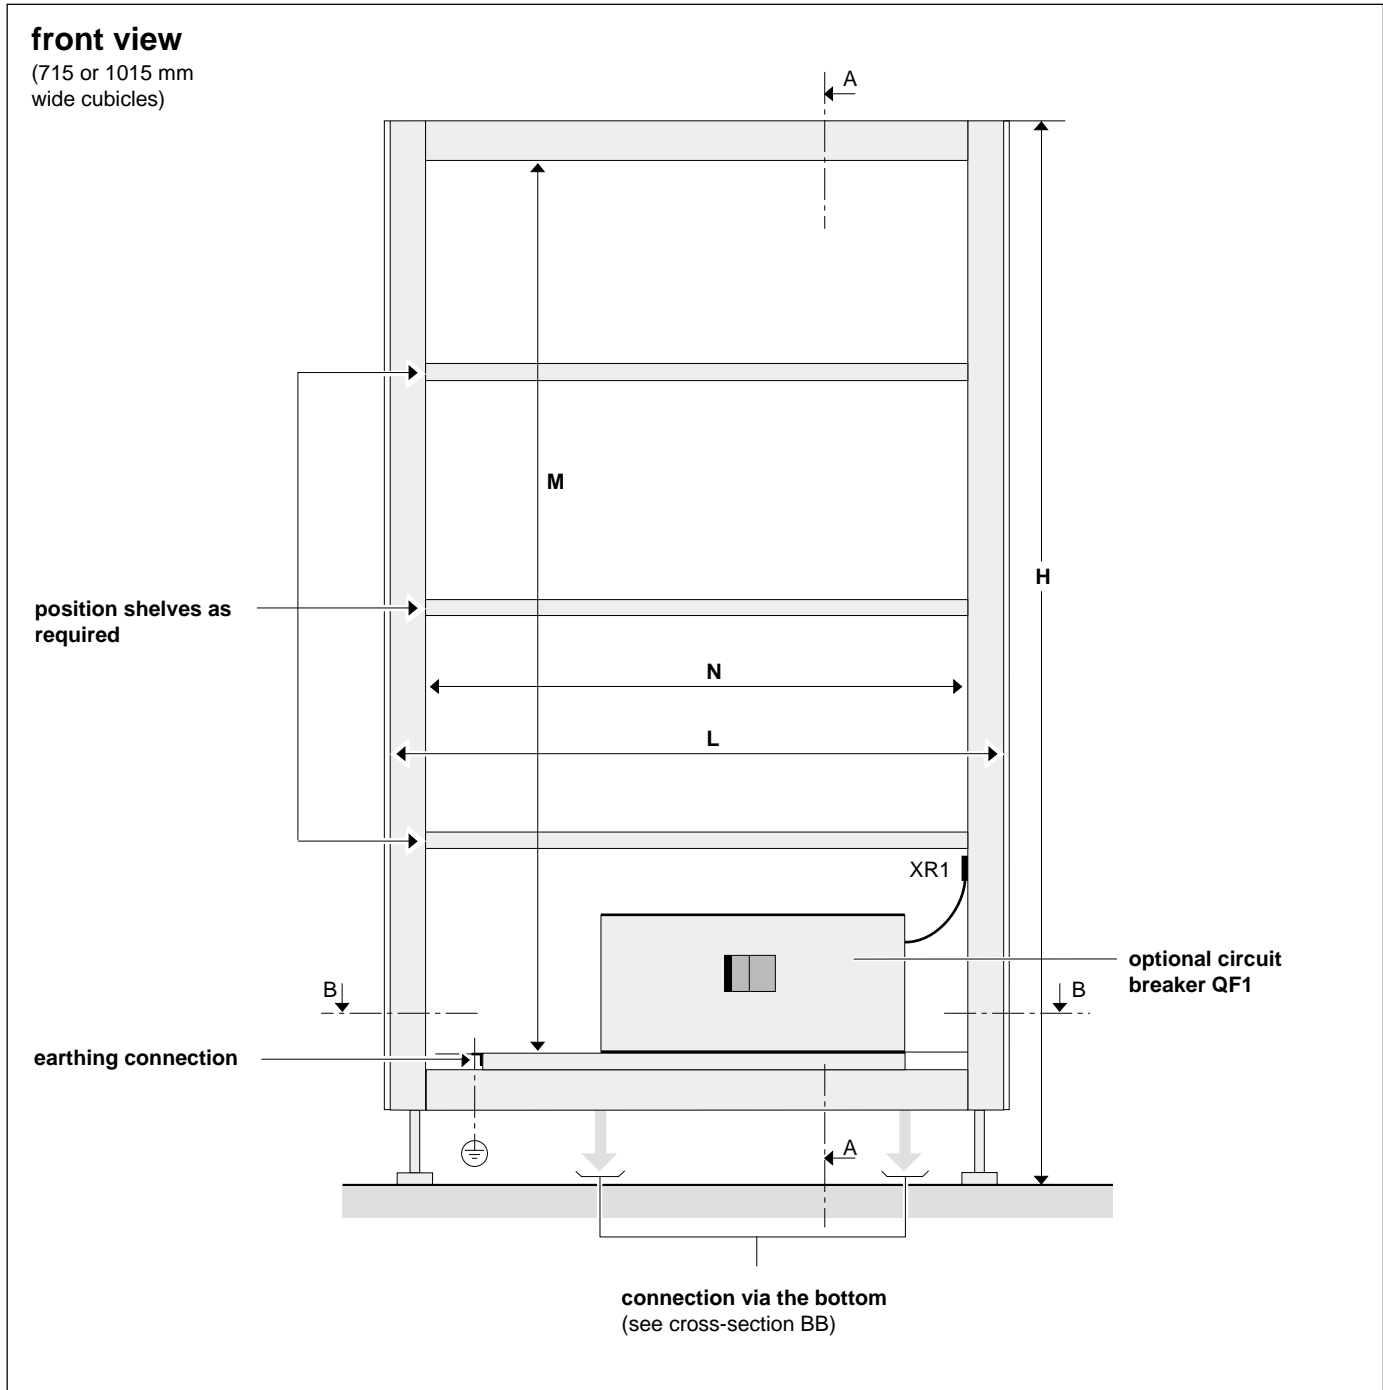
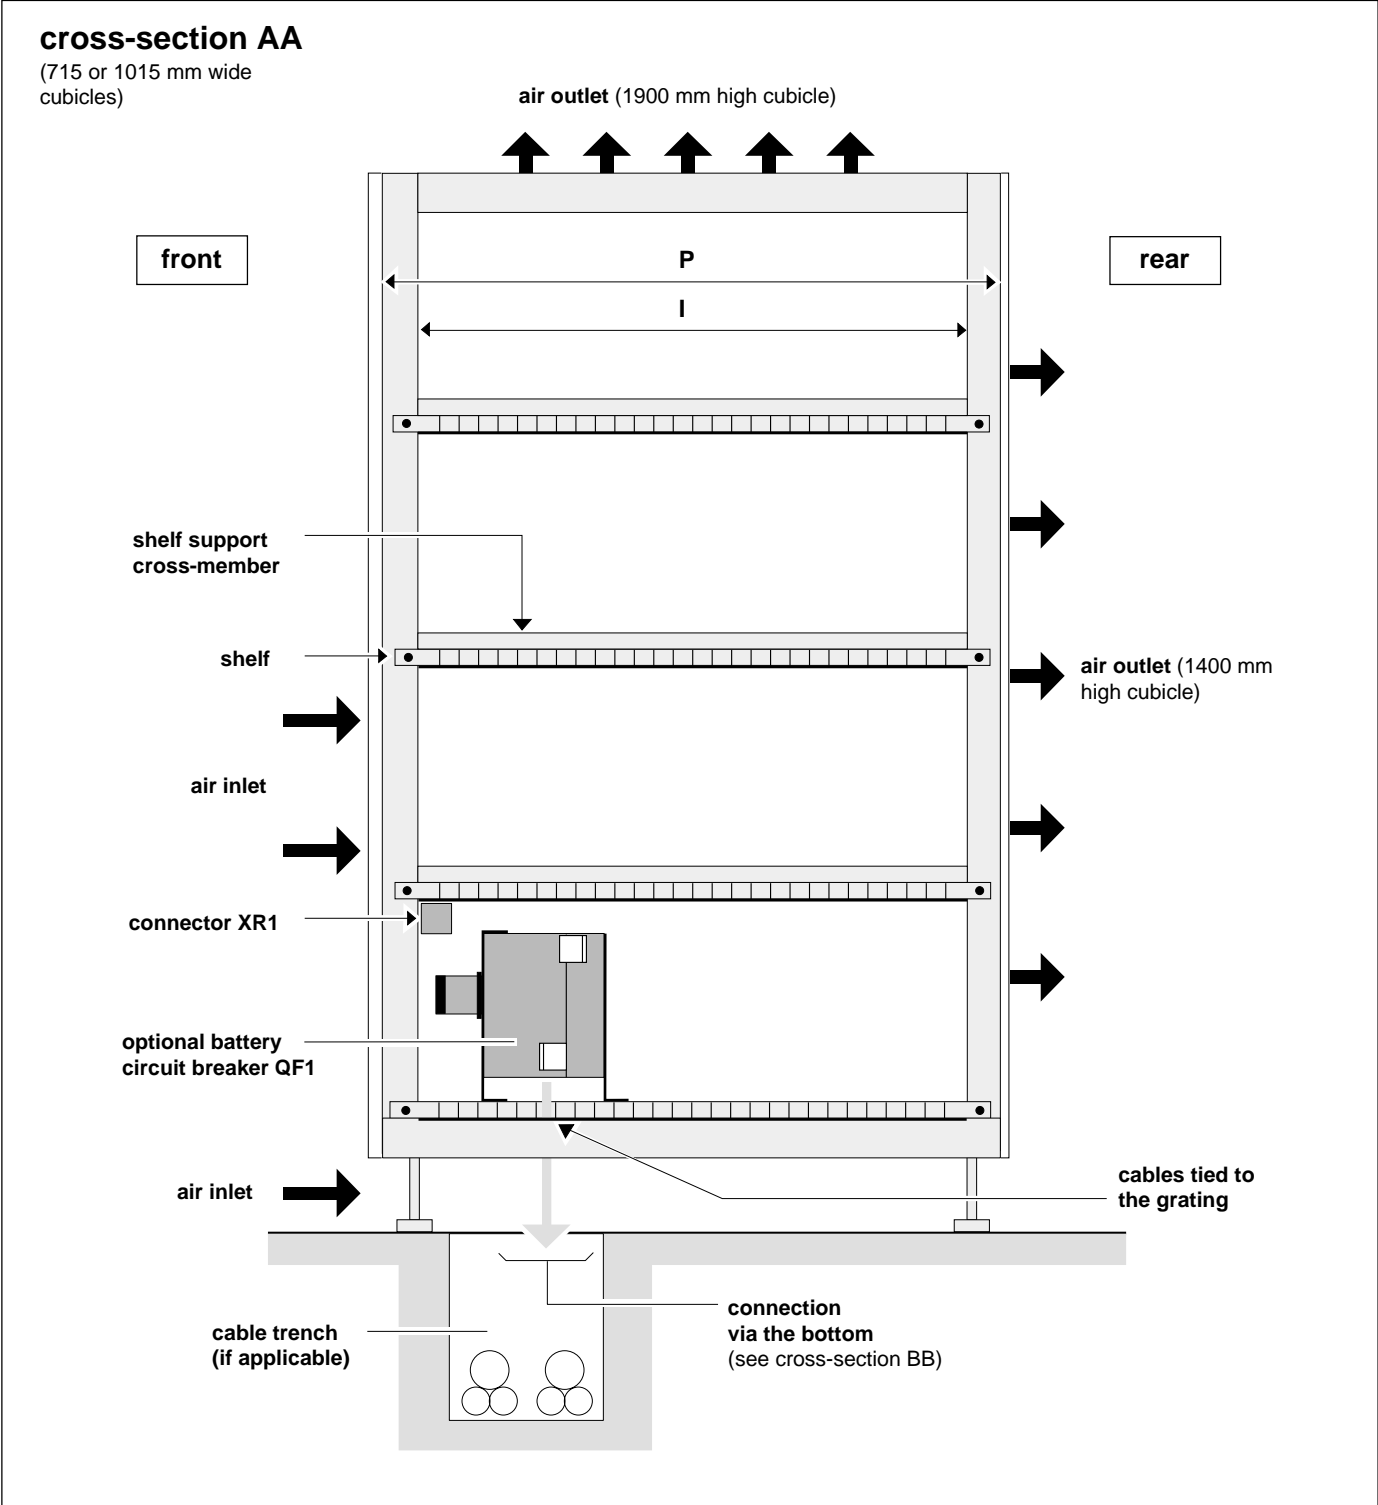
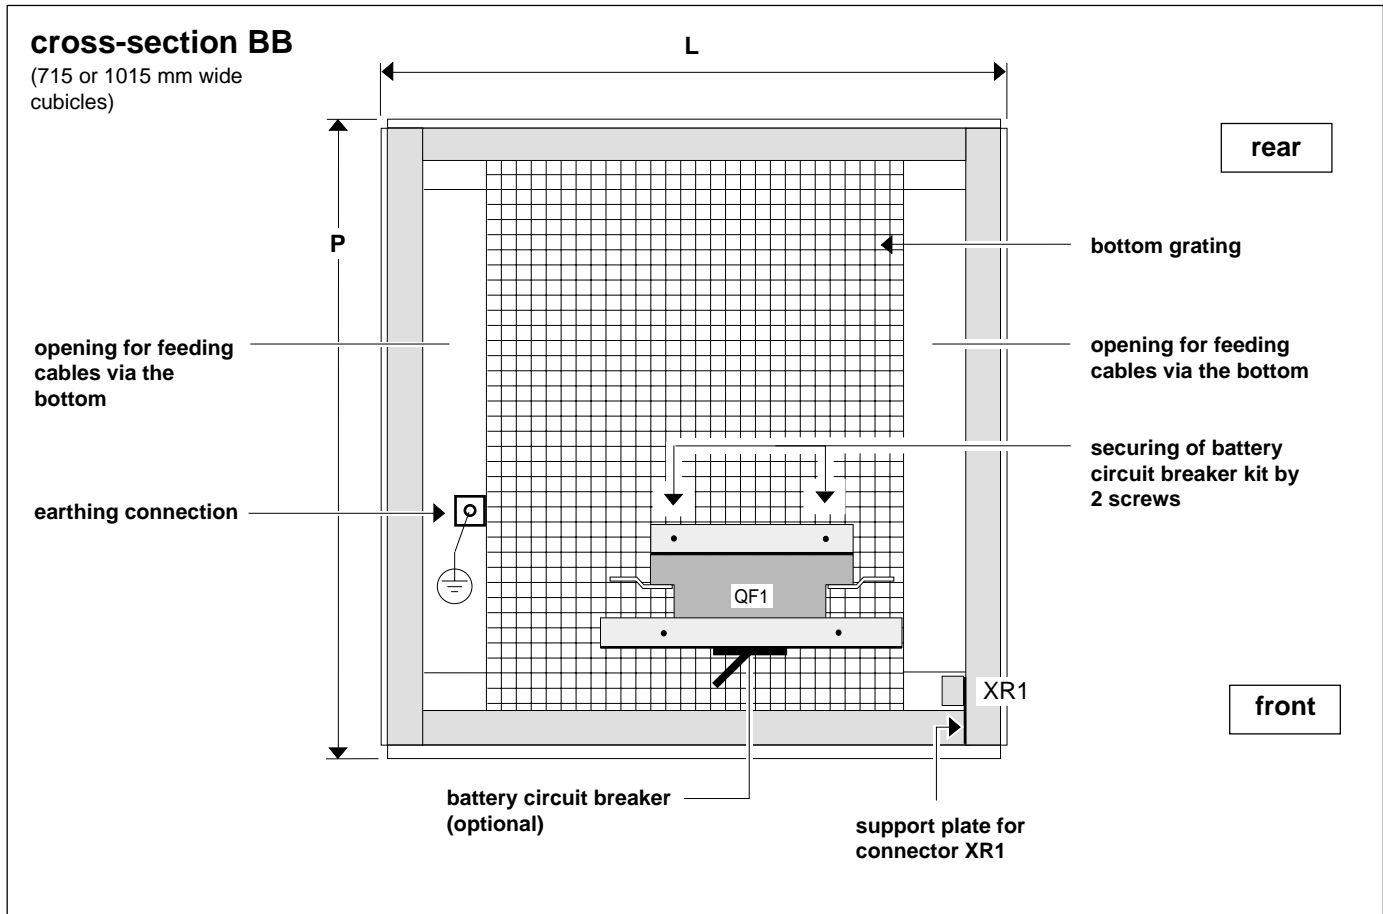

Fig. 1
Fig. 2
Fig. 3
The following figures show the front view (Fig. 1), cross-section AA (Fig. 2) and cross-section BB (Fig. 3), for a 715 mm or 1015 mm wide cubicle.
- ▶ bolt the support of connector XR1 to the front RH upright of the cubicle structure (see Fig. 3).